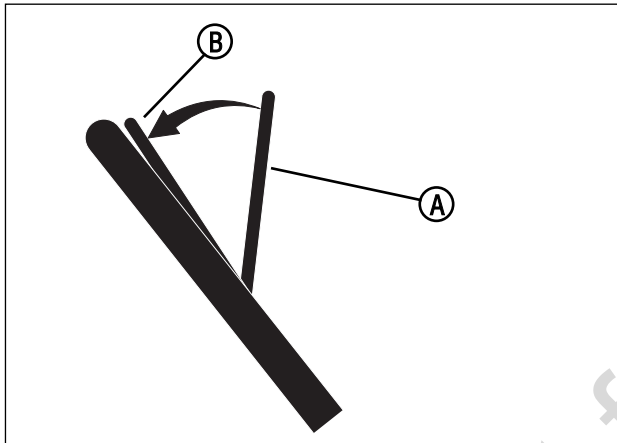

Figure 11: Operating the engine stop lever
Release the engine stop lever (**A**, Figure 11) and the engine and the blade will automatically stop. To run the engine, hold the engine stop lever in the Operating position (**B**).
1. Hold the engine stop lever (**A**, Figure 11) in the Operating Position (**B**).